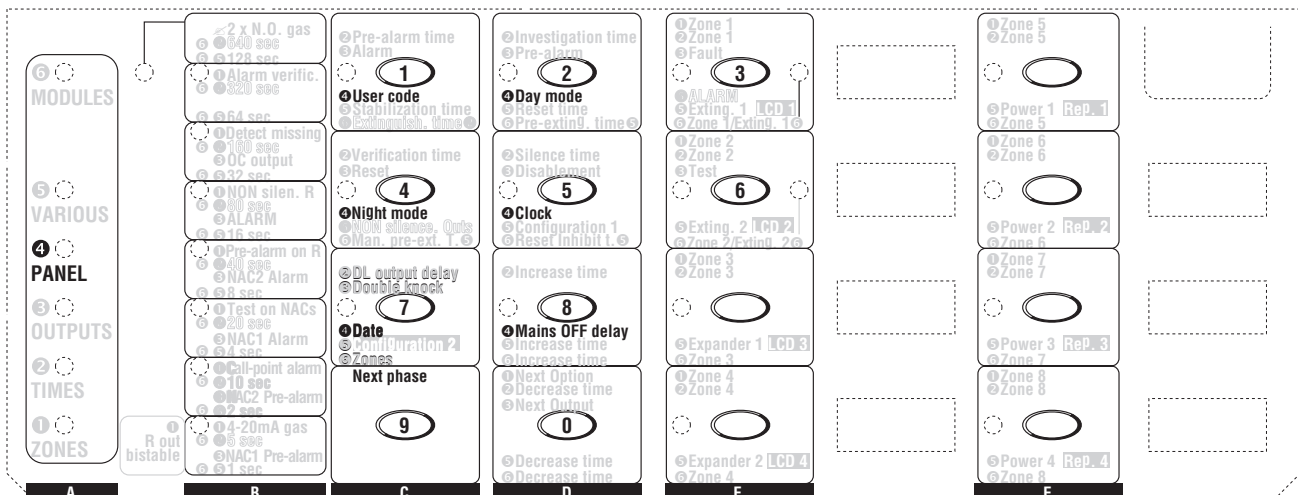

Figure 33 The “Panel” Programming Phase
The **PANEL** LED will blink to indicate that the system is ready to program the **User Code**, **Day** and **Night Mode** Times and current **Time** and **Date**. During this phase, the keys and LEDs will operate in accordance with the options preceded by ④ in the panes on the Programming Overlay, see Figure 33.
- Using the keys in columns C and D, select the parameter you want to program (refer to the respective paragraph for details) **or**, press the **Next phase** key 9 to go to the following Programming Phase (see Column A).